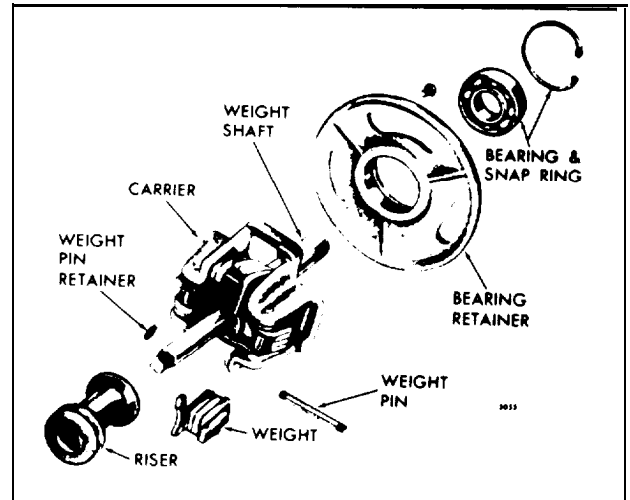

Fig. 6 - Governor Weight Details and Relative Location of Parts
2. Press the governor weight shaft bearing into the bearing retainer by pressing on the outer race of the bearing (Fig. 6).